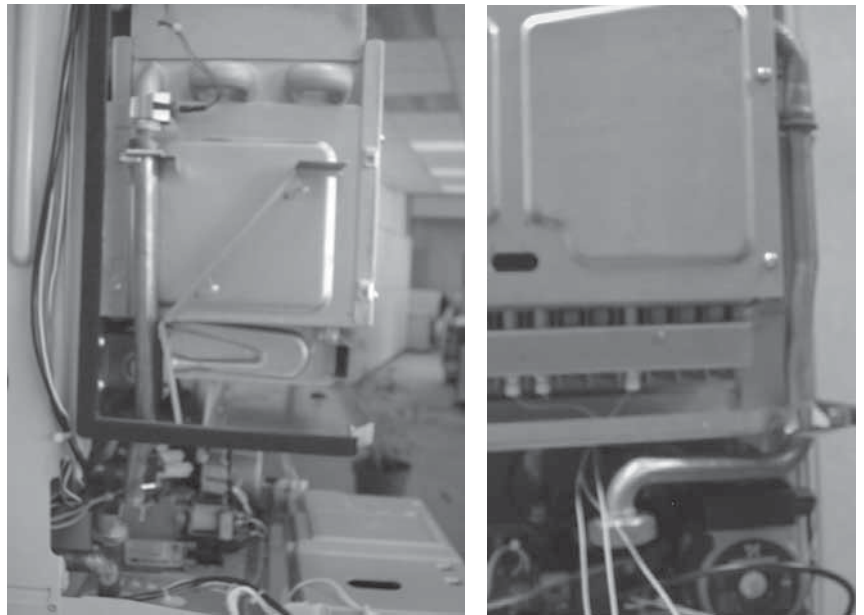

Figure 40
- Remove pump-exchanger and exchanger-bypass connection pipes. *Figure 40*